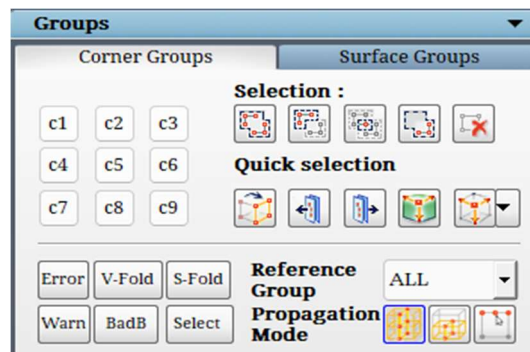

Figure 4.66: Corner Groups tab
**Groups** tab and **Surface Groups** tab. The corner groups tab can be seen in Figure 4.66. When you depress one of these buttons, the number on that button activates that group number. Therefore, when the [c6] button is depressed, group #c6 is active. Only one group can be active at a time. When you switch ON a corner group, a message appears at the status bar with the no. of corners and no. of faces grouped in that corner group.